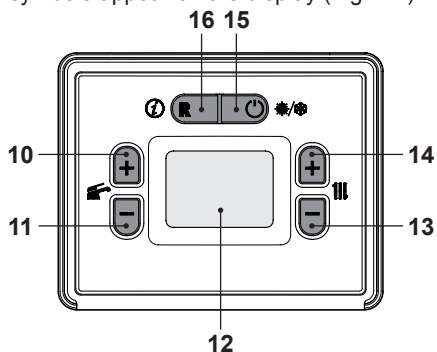

Fig. 7.4
- Press the 15 key until both  and  symbols appear on the display (Fig. 7.4).
- Switch off the boiler by pressing the 15 (Fig. 7.4) key until the message **OFF** appears on the LCD display (Fig. 7.3).